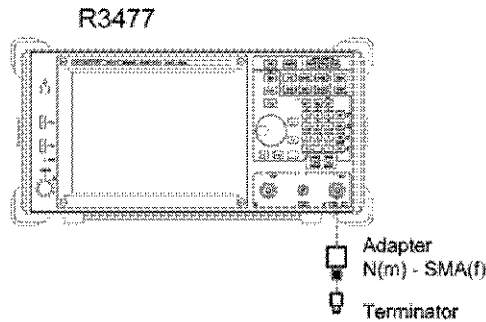

Figure 2-13 Displayed Average Noise Level Test
1. Connect the instruments as shown in Figure 2-13.